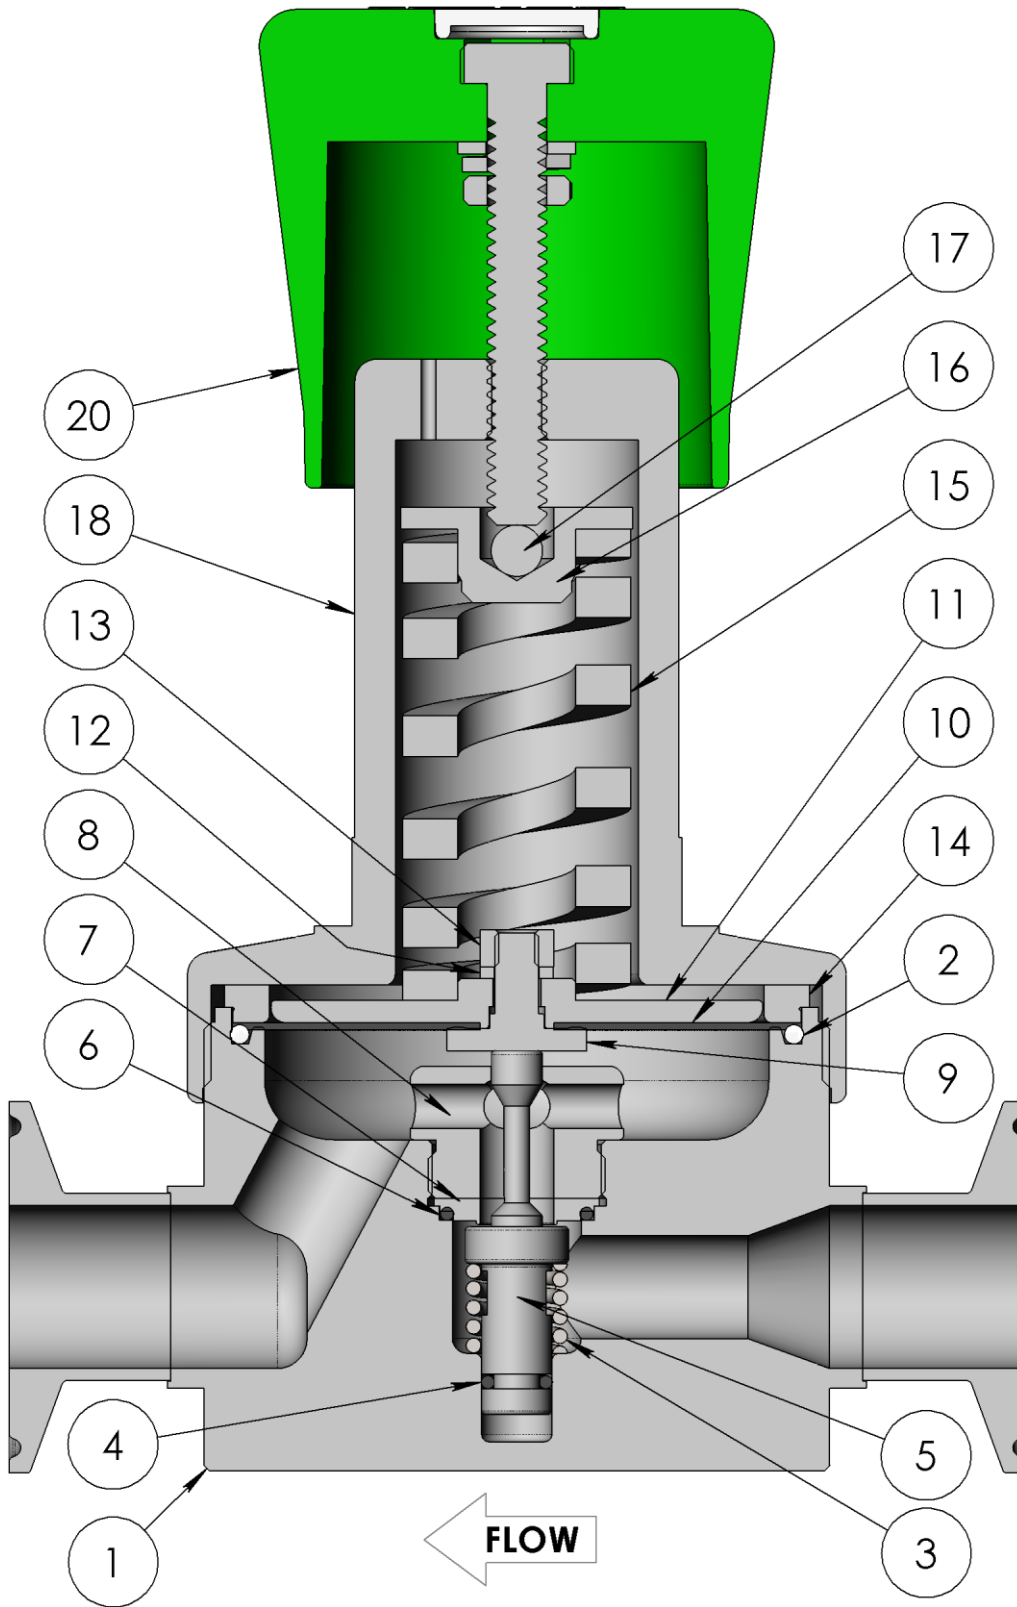

Fig 4
1. Secure the body (1) in a vise.
2. Fit the poppet O-ring (4) onto the poppet (5).
3. Insert the poppet spring (3), poppet (5), seat (7), and seat O-ring (6) into the body (1).
4. Lightly lubricate the seat retainer threads (8) and install into the body (1). Torque to 11 lbf·ft (15 N·m).
5. Lightly lubricate the diaphragm screw threads (9). Fit the diaphragm (10) onto the diaphragm screw (9) then fit the bottom spring guide (11), washer (12), and nut (13). Torque to 3.5 lbf·ft (5 N·m).
6. Fit the diaphragm O-ring (2) into the body (1).
7. Insert the sensing assembly into the body (1).
8. Fit the clamp ring (14) into the body (1) on top of the diaphragm (10). Orient per Fig 4.
9. Lightly lubricate the knob assembly stem (20) and thread it through the spring housing (18).
10. Fit the ball (17) into the spring guide (16) and retain in place with lubricant.
11. Stack the set spring (15) and spring guide (16) onto the bottom spring guide (11).
12. Lightly lubricate the spring housing threads (18) and screw it onto the body (1). Torque to 37 lbf·ft (50 N·m).